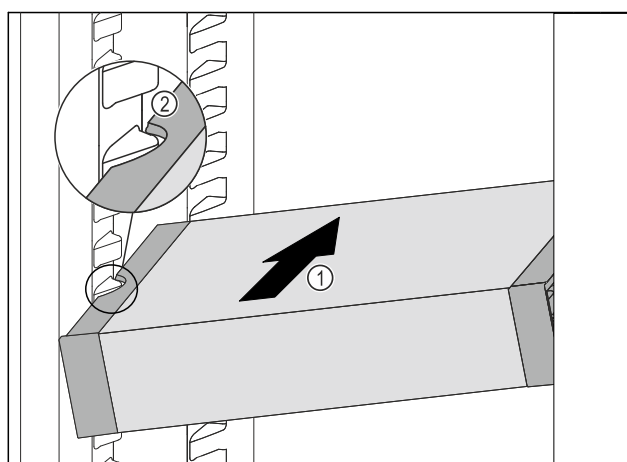

Fig. 239
- Insert the VarioSafe into the fridge section at an angle Fig. 239 (1) until the recesses in the side Fig. 239 (2) of the VarioSafe are at the level of the support rib in the fridge section.